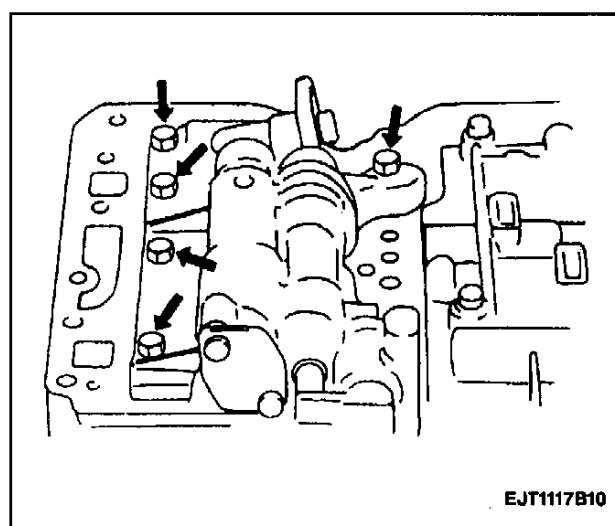

Figure 110—Installing Front Upper Valve Body Bolts (03-72LE, 4-Speed)
9. Turn valve body assembly over and install five bolts to front upper valve body (Figure 110).